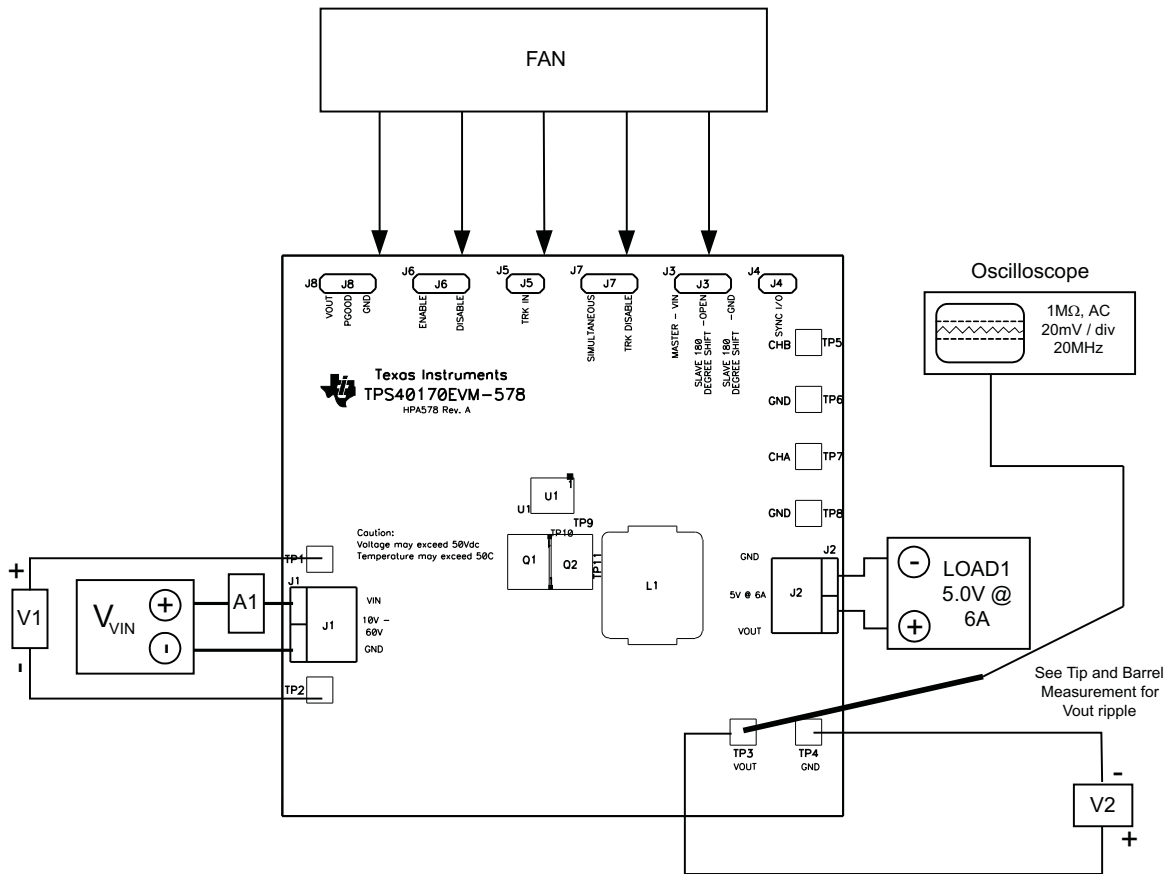

Figure 2. TPS40170EVM-578 Recommended Test Setup
Shown in Figure 2 is the basic test setup recommended to evaluate the TPS40170EVM-578. Note that although the return for J1 and JP2 are the same system ground, the connections must remain separate as shown in Figure 2.
2. Prior to connecting the dc input source,  $V_{IN}$ , it is advisable to limit the source current from  $V_{IN}$  to 3.5 A maximum. Ensure that VIN is initially set to 0 V and connected as shown in Figure 2.
3. Connect VIN to J1 as shown in Figure 2.
4. Connect the ammeter A1 between VIN and J1 as shown in Figure 2.
5. Connect the voltmeter V1 to TP1 and TP2 as shown in Figure 2.
6. Connect the voltmeter V2 to TP3 and TP4 as shown in Figure 2.
8. Place the fan as shown in Figure 2 and turn on, ensuring that air blows directly across the evaluation module.